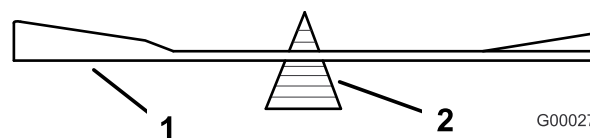
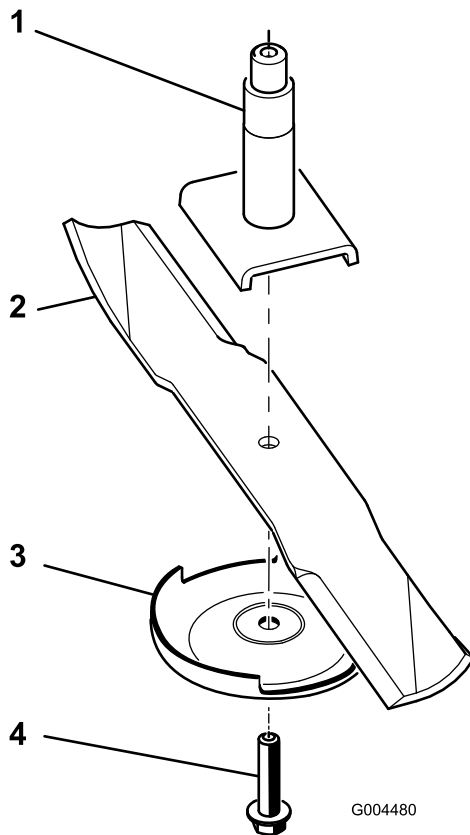

Figure 74
Figure 75
2. Remove the blade bolt, anti-scalp plate, and blade from the spindle shaft (Figure 75).
2. Check the balance of the blade by putting it on a blade balancer (Figure 74). If the blade stays in a horizontal position, the blade is balanced and can be used. If the blade is not balanced, file some metal off the end of the sail area only (Figure 75). Repeat this procedure until the blade is balanced.
1. Install the blade onto the spindle shaft (Figure 75).
2. Install the anti-scalp plate and blade bolt (Figure 75).